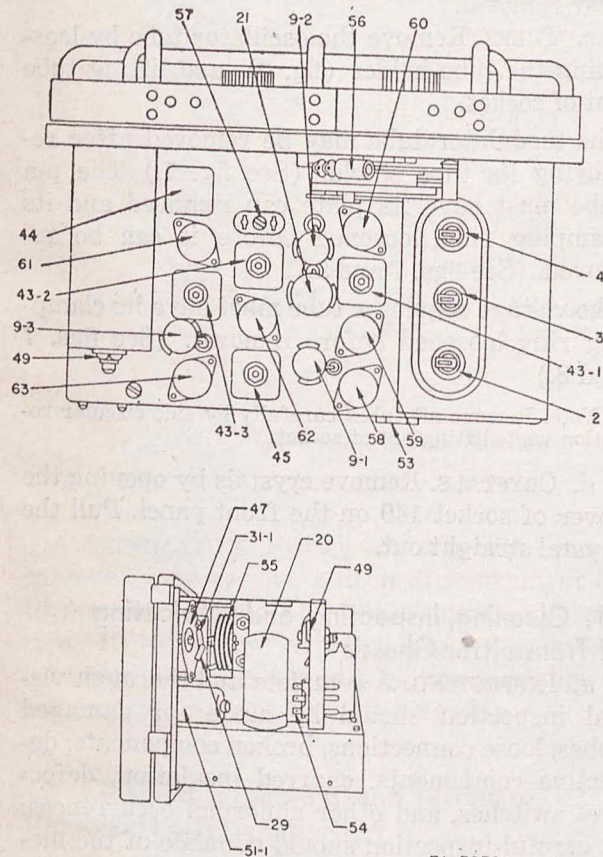

Figure 5. Parts identification, top and end view of receiver, Radio Receiver and Transmitter BC-1306.
c. **CRYSTAL.** The calibrating crystal holder (fig. 5), is accessible after removing the tube shield assembly. Remove the holder by pulling straight upward.